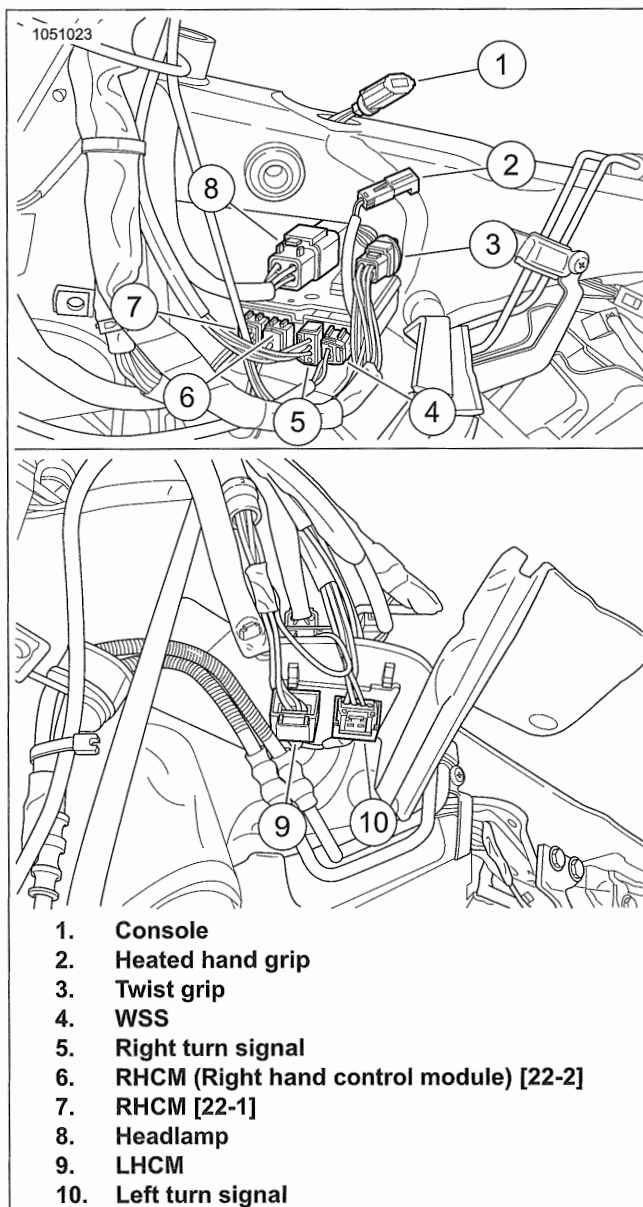

Figure 7-17. Front Electrical Caddy Connectors
2. See Figure 7-17. Remove front electrical caddy from left side of frame.
3. Disconnect LHCM (Left hand control module) connector (9).
8. See Figure 7-17. Connect LHCM connector (9).